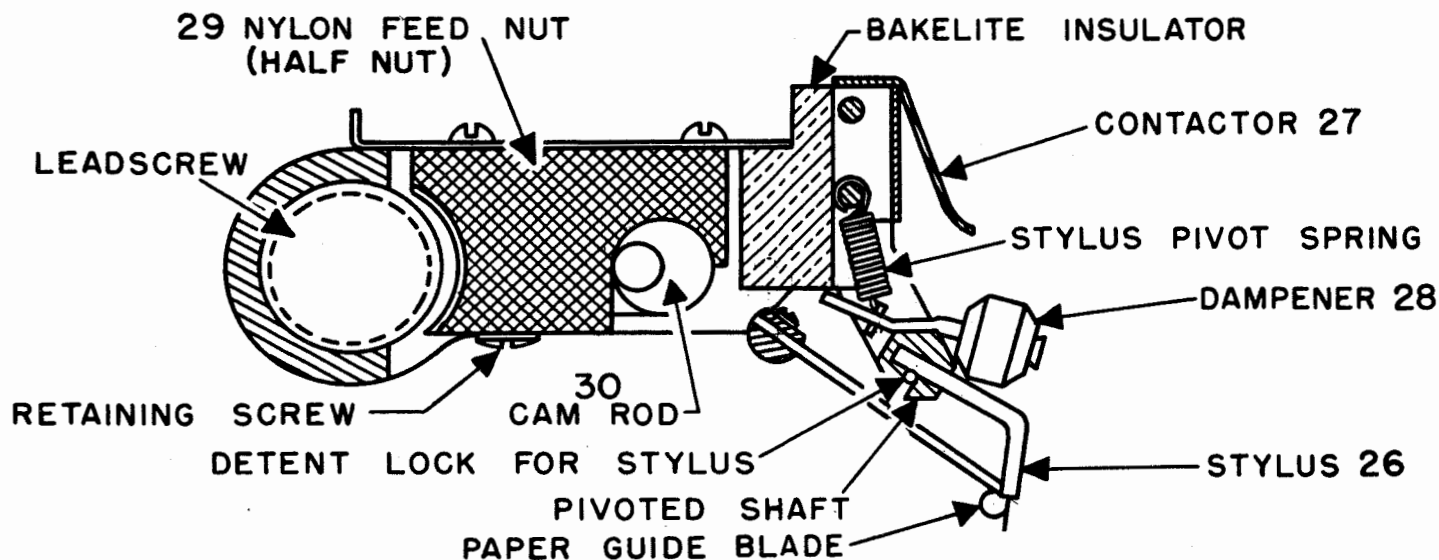

Figure 2-19. Detail of Stylus Carriage
g. CARRIAGE ASSEMBLY AND RETURN SPRING. (See figure 2-19). The stylus needle is held in the carriage assembly, which moves across the drum when engaged with the leadscrew shaft geared to the drum. The carriage is pulled to its starting position, at the left-hand side of the drum, by a nylon string which winds on a spring-actuated drum similar to the type used in typewriters.
b. STYLUS CARRIAGE CONTROL MECHANISM. —(See figures 2-19 and 2-20). Within the stylus carriage is a nylon feed nut or half nut (29) that engages the leadscrew when actuated by the cam rod (30).